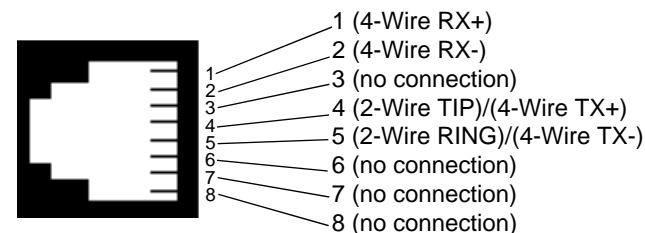

Figure 7: RJ-45 Line Interface
2. To function properly, the Model IM2RC/F needs one or two **twisted** pairs of metallic wire. The twisted pairs must be **unconditioned**, dry, metallic wire, between 19 (.9mm) and 26 AWG (.4mm) (Appendix B describes cable requirements). Standard dial-up telephone circuits, or leased circuits that run through signal equalization equipment, or standard, flat modular telephone type cable, are **not acceptable**. Figure 7, below, shows the pin/signal relationships of the Line Interface Port.